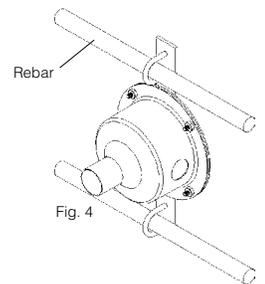

Fig. 4
3. Attach the assembly to structural rebar in such a way as to pull the assembly against the back of the concrete forms to help hold it in place while the concrete is being poured, as shown in Fig. 4.